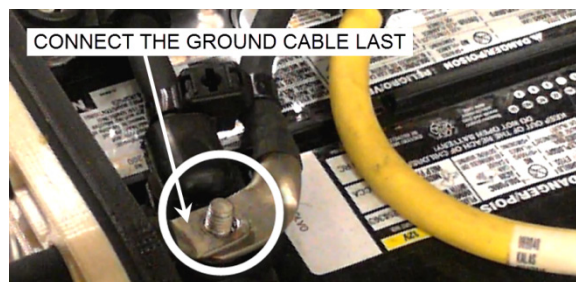

FIGURE 54: GROUND CABLE
- Connect the ground cable last (FIGURE 54). Tighten the ground cable nut to the following torque: